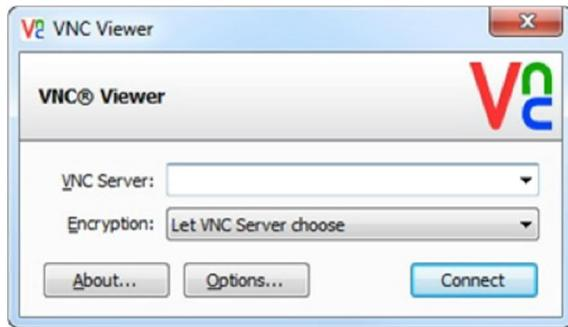

Figure 82: Real VNC Viewer Installation Screen
14. Open the program by clicking the Connect button. (Figure 82)